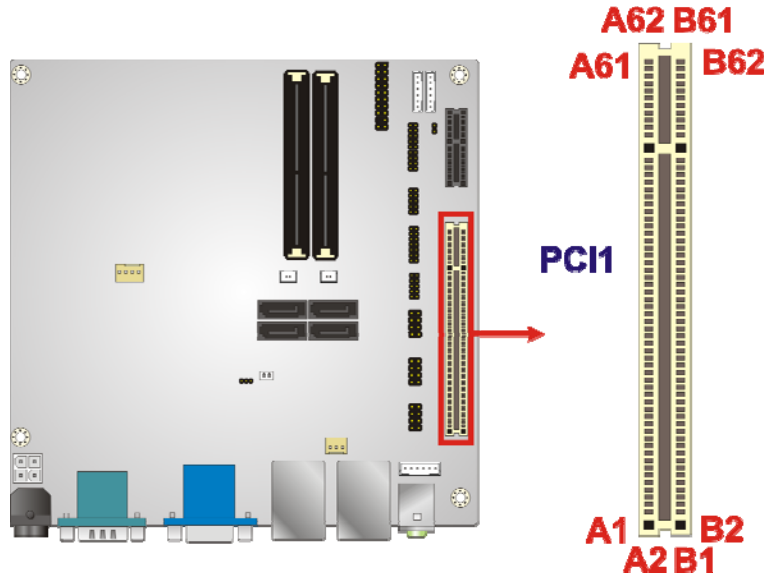

Figure 3-12: PCI Slot Location
- CN Location:** See **Figure 3-12**